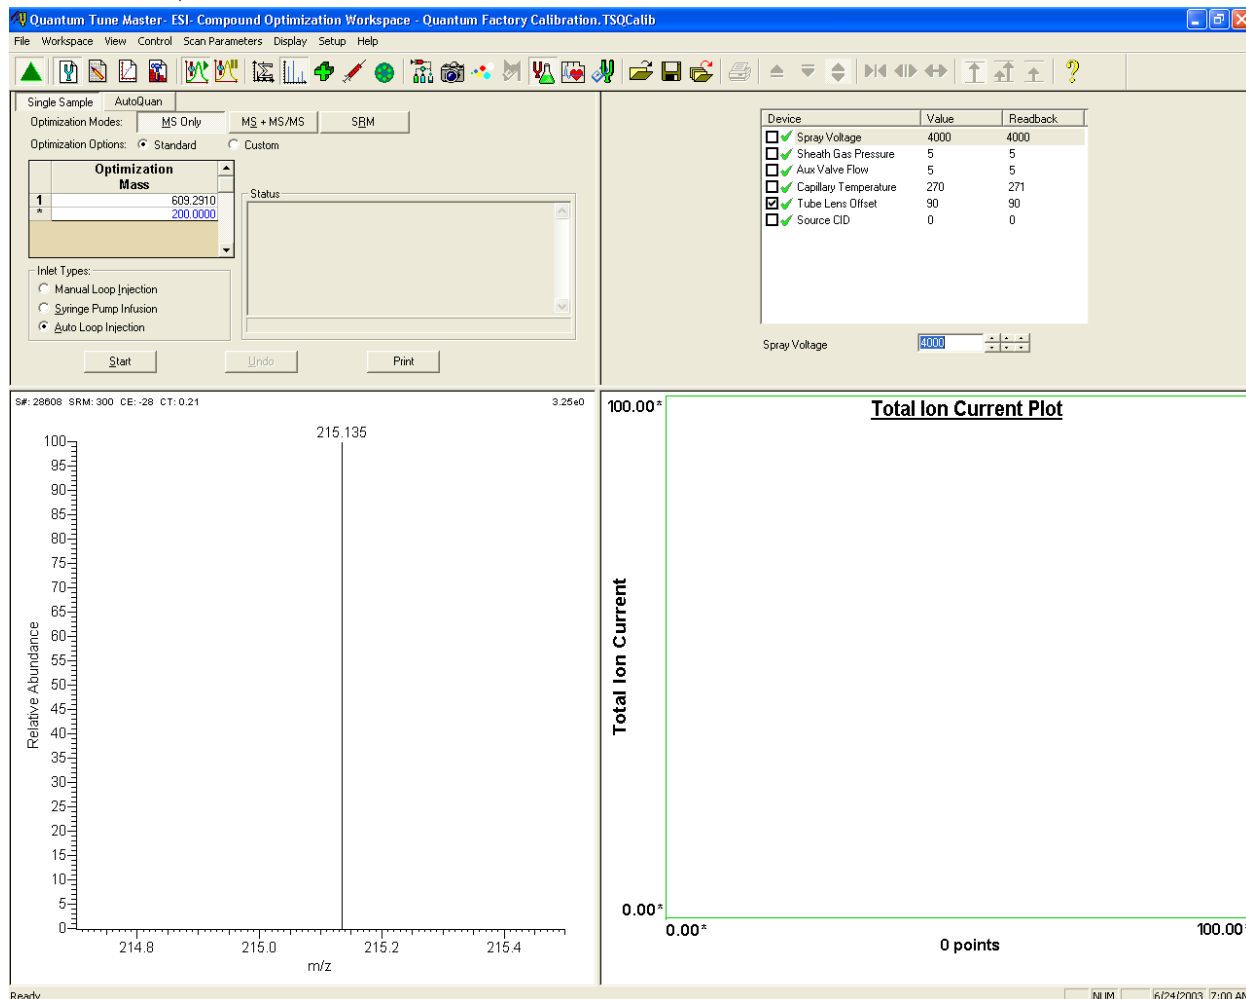

Figure 3-3. Compound Optimization workspace, showing the mass spectrometer in ESI mode
2. Click on the Compound Optimization Workspace button on the Control / Scan Mode toolbar to display the Compound Optimization workspace (Figure 3-3).